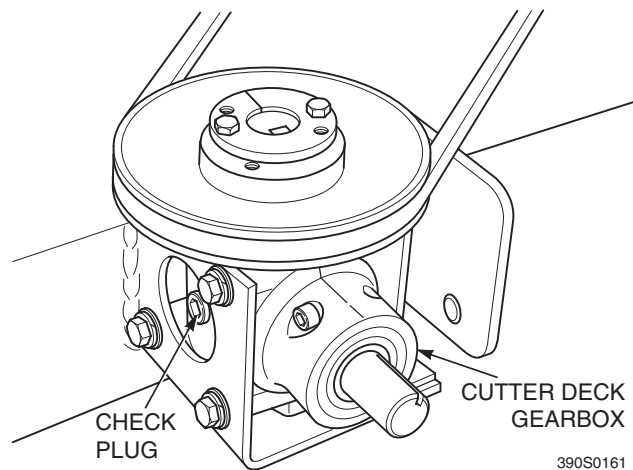

Figure 7-8. Cutter Deck Gearbox
2. Clean and remove the check plug from the side of the gearbox. See Figure 7-8.